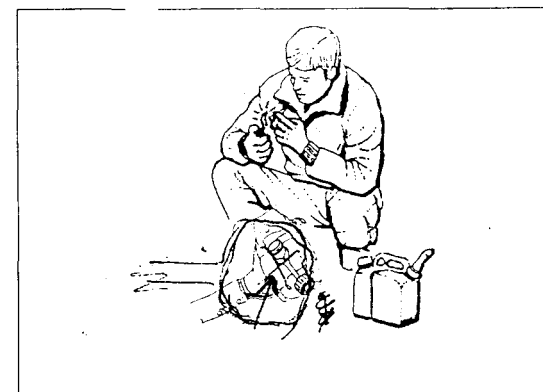

Fig17
Gasoline is extremely flammable fuel. Use extreme caution when handling gasoline or fuel mix. Do not smoke or bring any fire or flame near the fuel (Fig. 17).
1. Slide the stop switch away from the "STOP" position (Fig. 17,18).